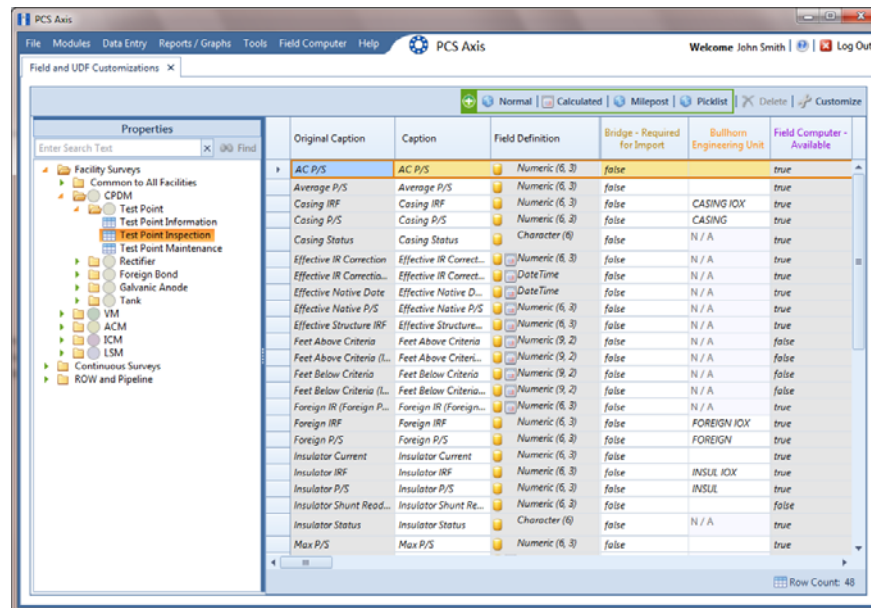

Figure 3-34. Field and UDF Customizations
- 3 Select an item in the *Properties* panel that includes the data entry grid you want to add a UDF. For example, double-click **Facility Surveys > CPDM > Test Point > Test Point Inspection** to display a grid with fields and property settings related to the *Test Point Inspection* data entry grid (Figure 3-34).
- 8 Click a toggle button  to open a field category, such as *Test Point Inspection Fields* shown in Figure 3-34, page 75. Double-click a field in the list of fields to add it in the *Expression* field. Define the UDF using the operator and functions buttons.